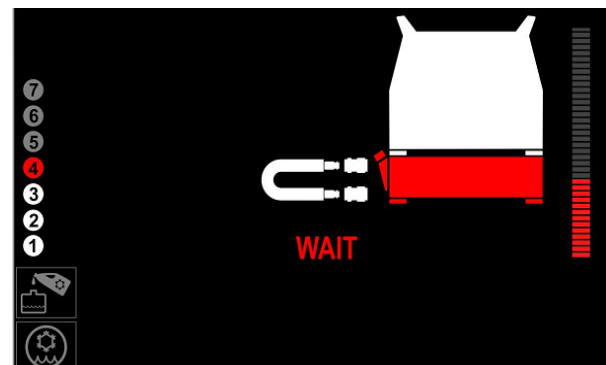

Figure 17
- Wait until the coolant fully circulates through the cooling system and returns into the reservoir - (Figure 17 or 25).